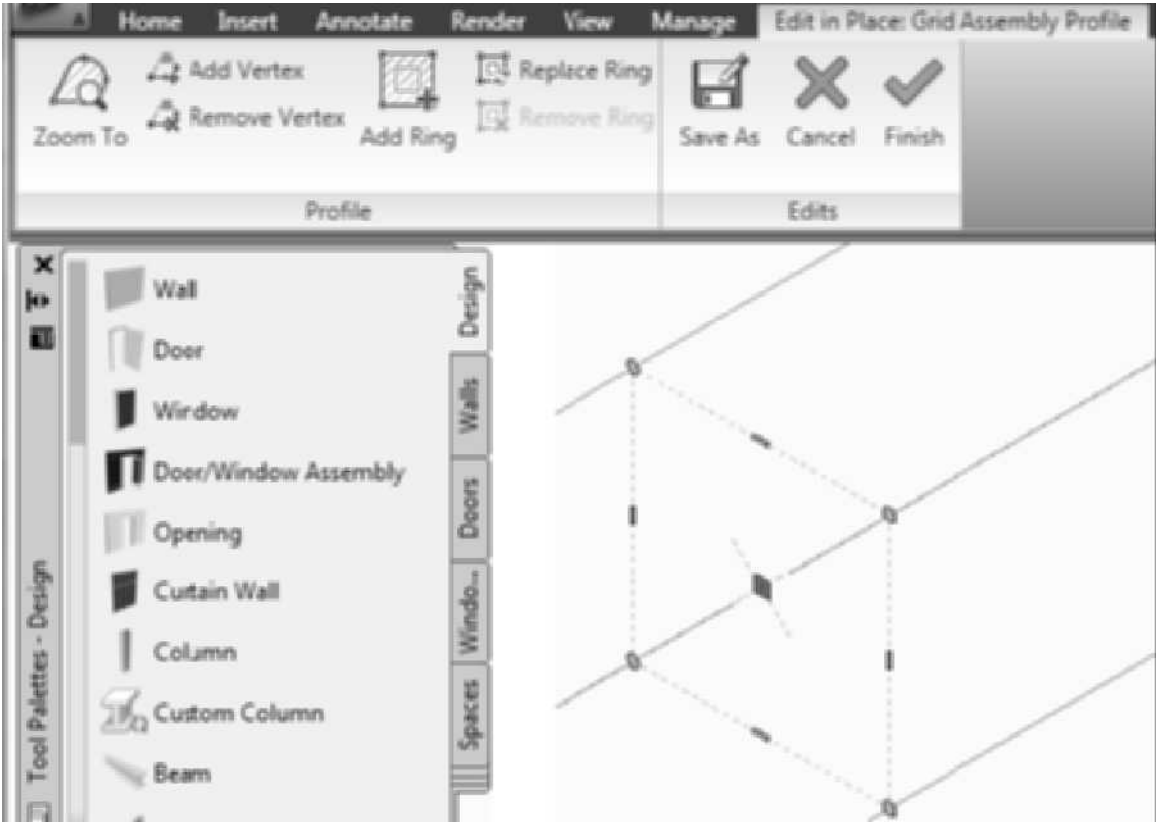

FIGURE 6.21 *Editing a modified frame profile*
Start this command by selecting a door/window assembly that includes a profile that has been previously edited. Choose **Edit Profile** from the flyout menu of Frame/Mullion. When you select a frame that has a profile, the **Edit in Place: Grid Assembly Profile** tab will be displayed as shown in Figure 6.21. The **Zoom To** option will enlarge the view of the frame or mullion, allowing you to easily edit the profile as shown at the right in Figure 6.21. Select the profile to display its grips. The profile can then be modified by grip editing, or you can choose from the Profile panel of the ribbon. The procedure to edit a profile is shown in the following steps:
2. Select a frame or mullion of the grid assembly to edit. The **Edit in Place: Grid Assembly Profile** tab is displayed, and grips are displayed on the profile as shown at the left in Figure 6.21.